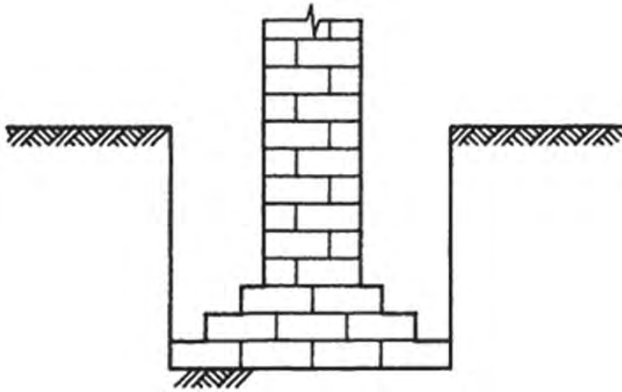

Fig.7.4: Spread Footing Foundation
5. Now courses of the bricks are arranged as per given Fig. 7.4, in which first layer is three brick thick.